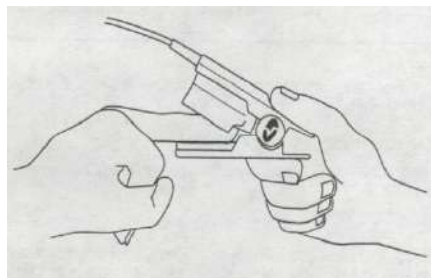

Figure 6-1: SpO2 sensor placement
2. Attach the sensor to the appropriate site of the finger (Figure 6-1 shows the proper method).